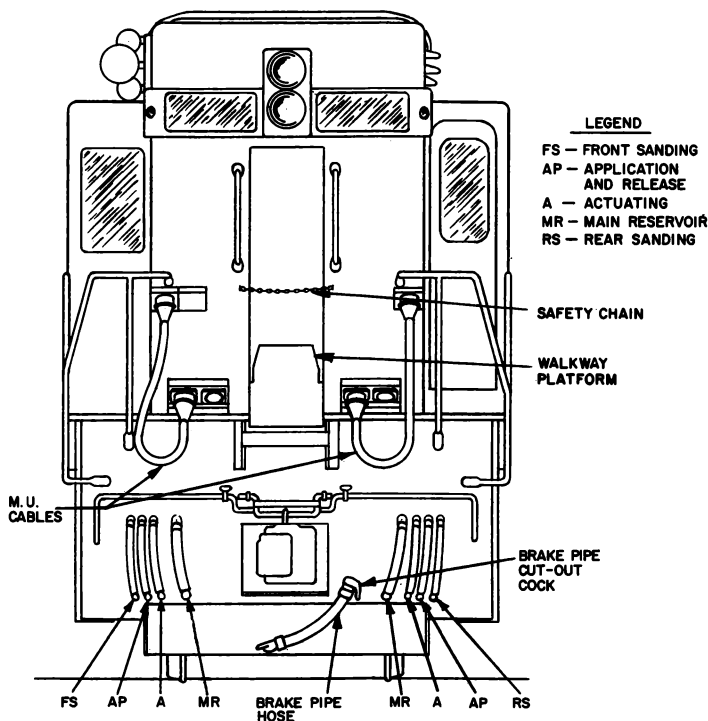

Fig. 16. Locomotive end connections (E-9786B)
4. Prepare locomotive-end connections for desired operation (see Fig. 16).